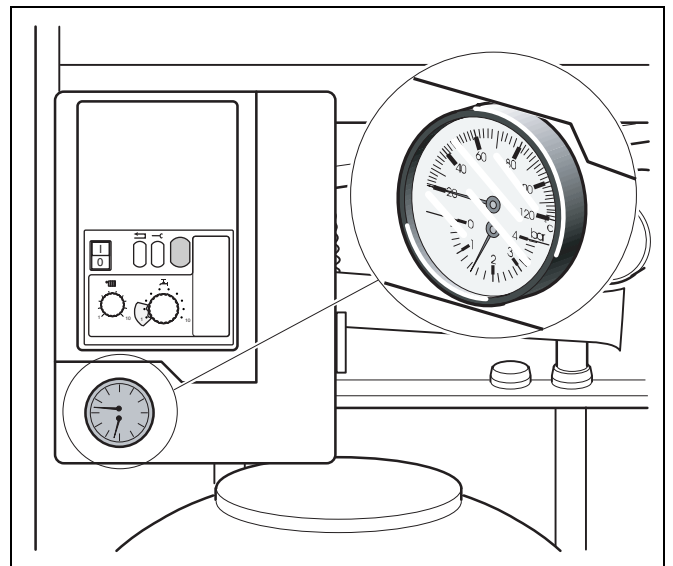

fig. 24 Pressure display
- Fill the system to a pressure of 1.0 to 1.2 bar (fig. 24, item 1). Max. water pressure is 2.0 bar.